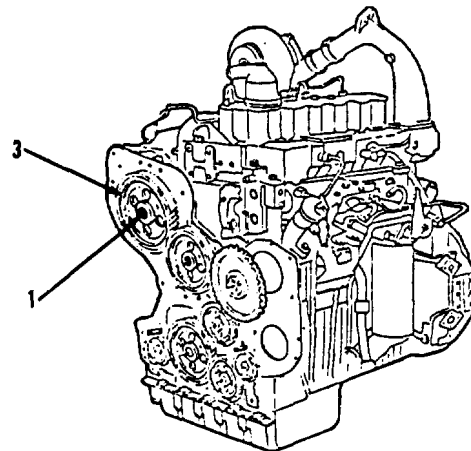
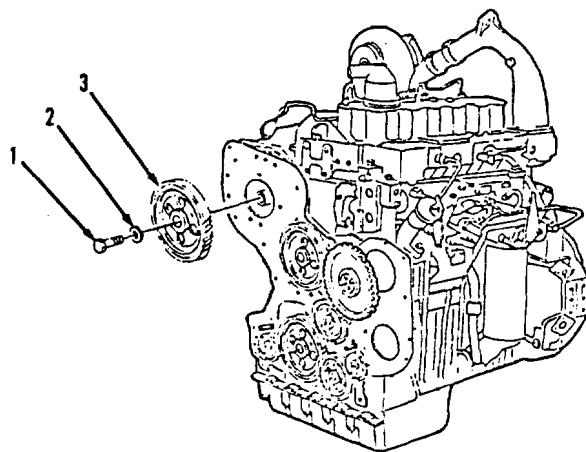

Figure 3-19.
Figure 3-20.
1. Loosen bolt (1) on gear (3, Figure 3-19) approximately .25 inch.
2. Using a bearing puller, loosen gear (3) from shaft.
3. Remove bolt (1), washer (2) and gear (3, Figure 3-20).